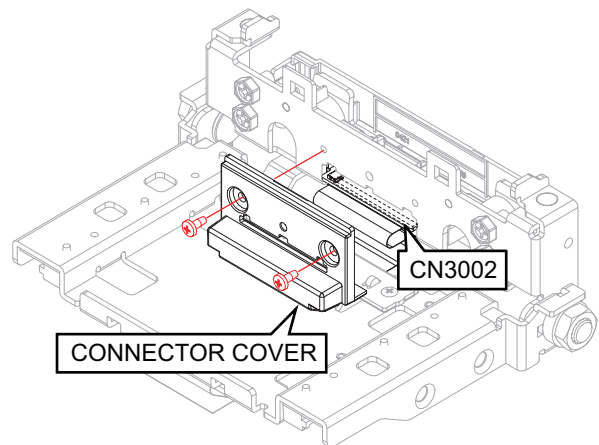

Fig.6
3.1.2 Removing the DETACH PWB (See Fig.6 and 7)
- (1) Remove the 2 screws, and remove the CONNECTOR COVER. (See Fig.6)
- (2) Disconnect the FPC from the connector. (See Fig.6)
- (3) Remove the 2 screws, and remove the CONNECTOR COVER and DETACH PWB. (See Fig.6)
- (1) Remove the 7 screws (a), and remove the REAR COVER. (See Fig.6)
- (2) Disconnect the FPC and FFC from the connectors. (See Fig.6)
- (3) Remove the 4 screw (b), and remove the PANEL PWB. (See Fig.6)